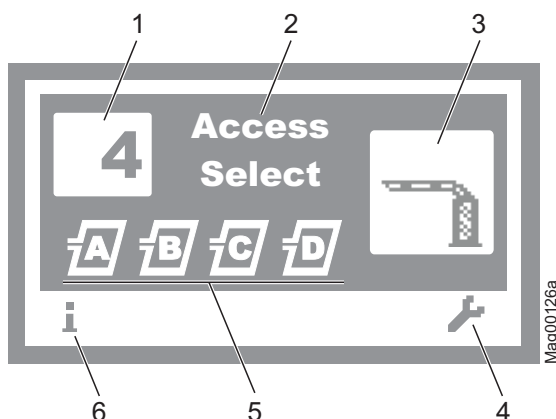

Fig. 46: Example "Operational view"
1. The operating view is displayed. → See page 104, Fig. 46.